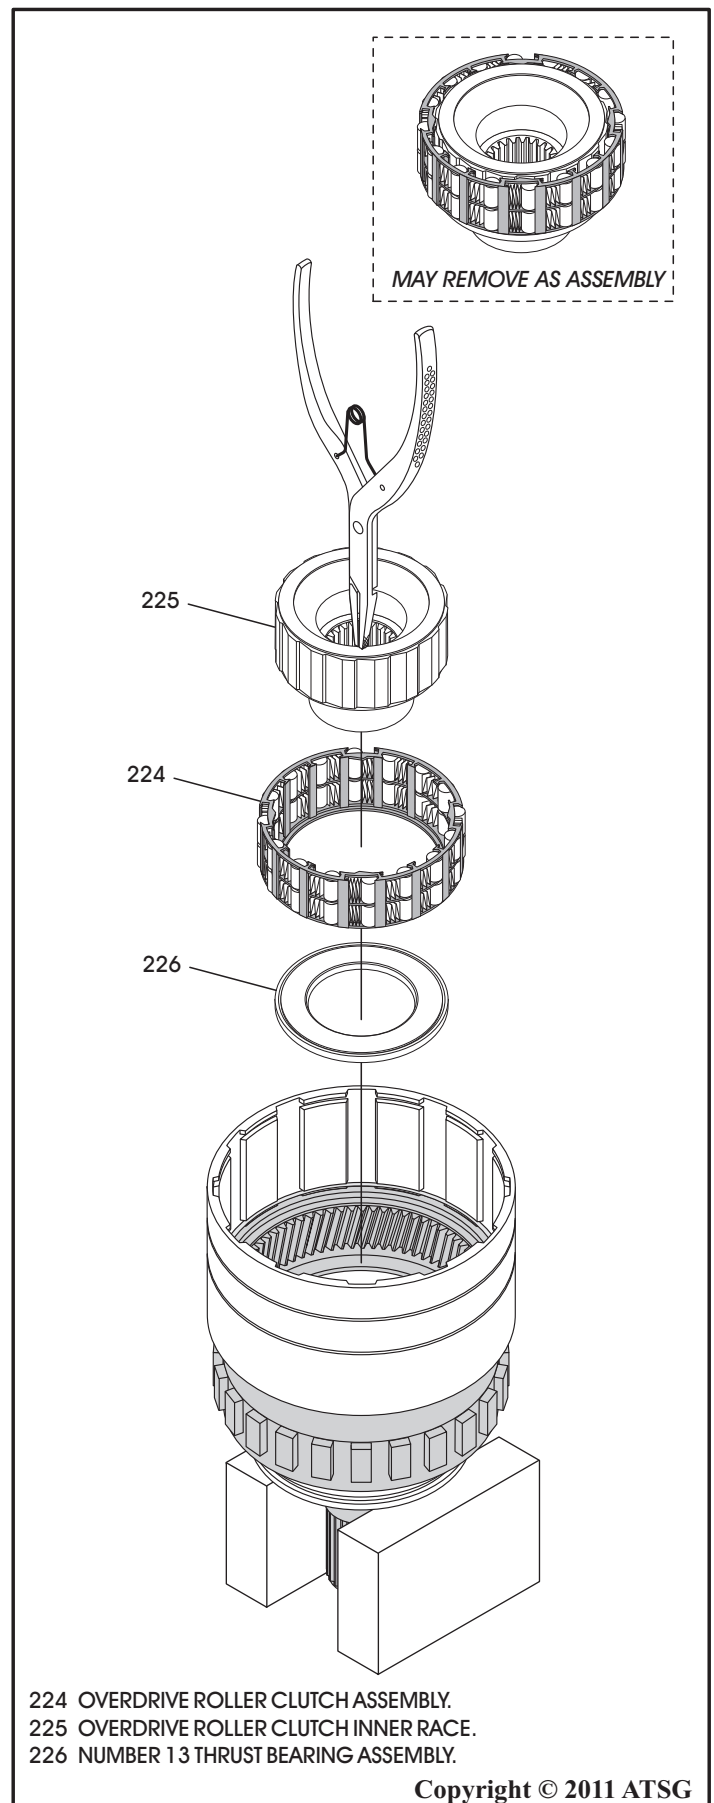

Figure 162
29. Using snap ring pliers, reach in and remove the overdrive roller clutch inner cam, as shown in Figure 162.
30. Remove the overdrive roller clutch assembly, as shown in Figure 162.
- Note:** Overdrive roller clutch inner cam and overdrive roller clutch may come out together, as shown in Figure 162.
31. Remove the number 13 thrust bearing, as shown in Figure 162.